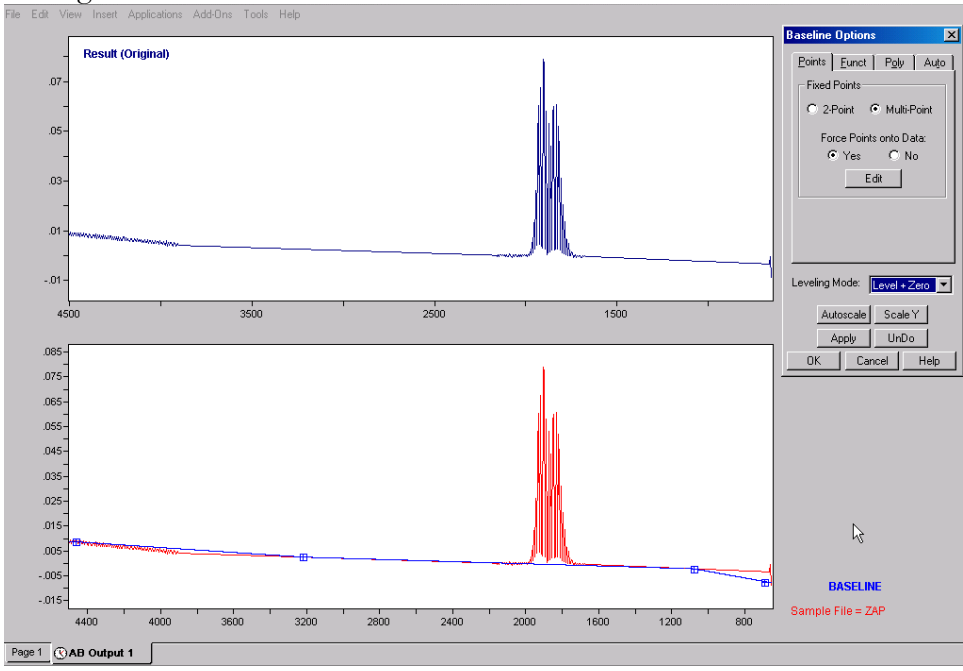

Figure 7.12 Baseline Correction
- 6) Select the options **Multi Point**, **Force Points Onto Data** and **Level And Zero** as shown in Figure 7.12.